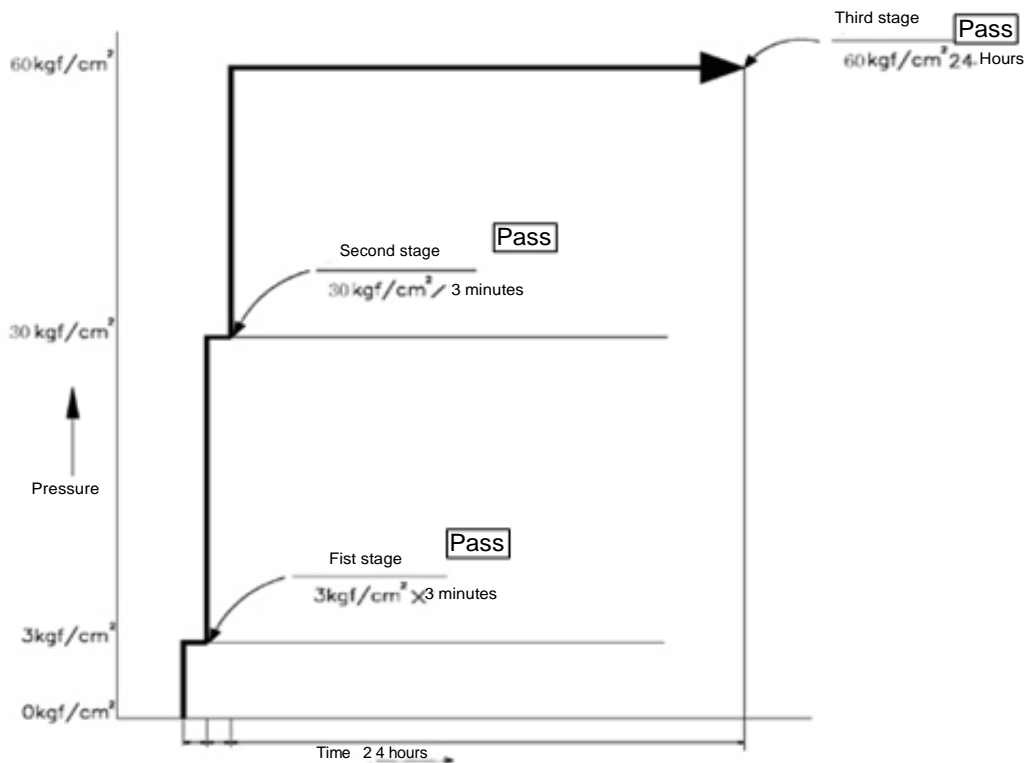

Fig 6 5 : Pressure stage control in the air tightness test
- ① As to each refrigerant system , it needs to charge the nitrogen gas slowly from the gas pipe and the liquid pipe at the same time ;
- ② There are several stages for charging the nitrogen gas , the details are referred to Fig 6 5 :